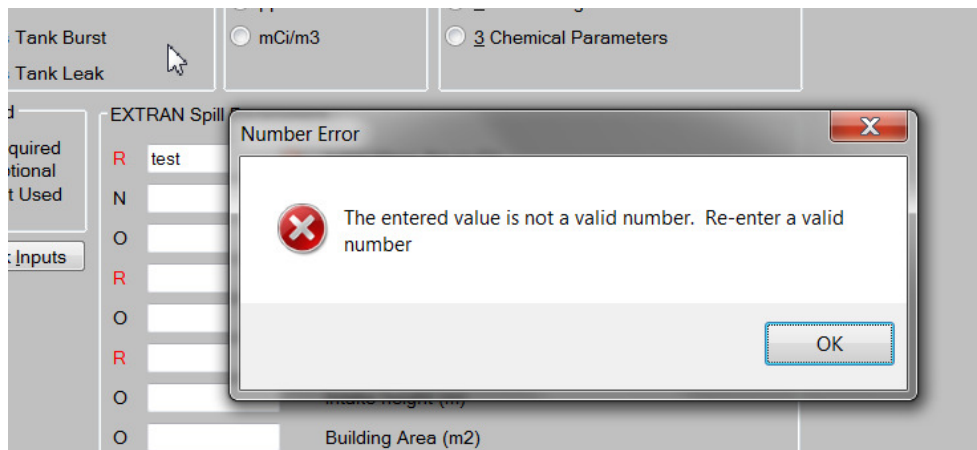

Figure 2-4: Error Message - invalid input
2. Field validation errors (see Figure 2-4: Error Message - invalid input)